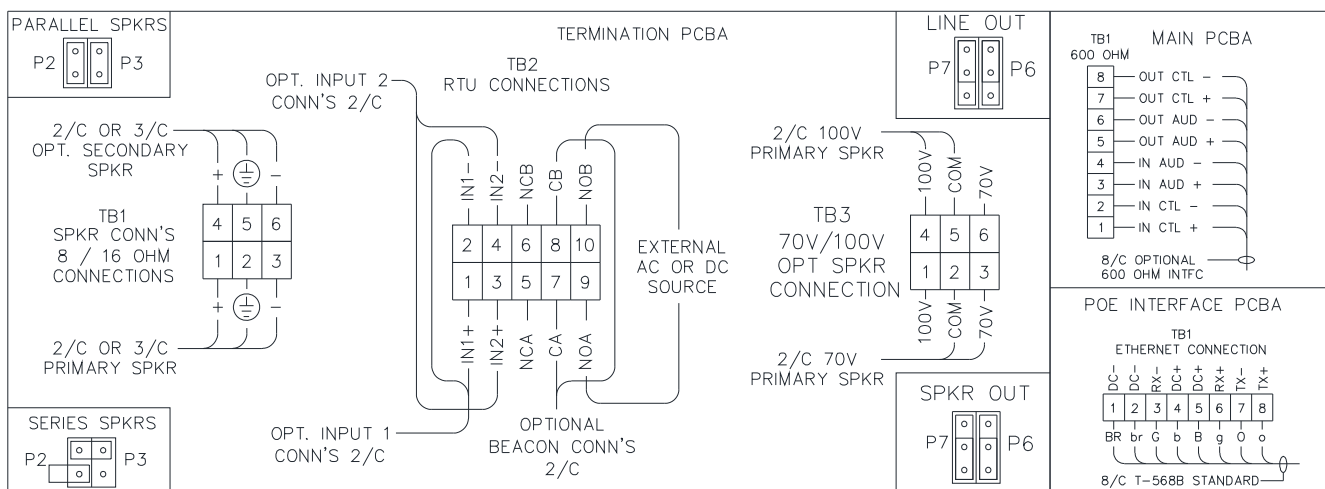

Figure 3. SP2 PoE Connection Diagrams
**4. 8-/16-ohm speakers** (see Figure 3):
5. Terminate the RTU inputs and output to terminal block TB2 on the termination PCBA (see Figure 3).
8. Terminate the PoE connection to terminal block TB1 on the PoE interface PCBA (see Figure 3).